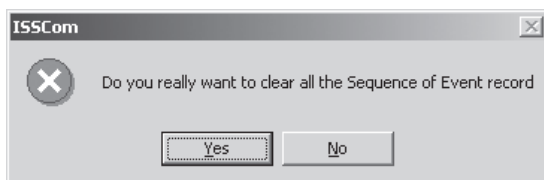

Figure 3-39 Clear Sequence of Events Record Command Confirmation Screen
- From the ISScom Main Screen menu select **System/Sequence of Events/Clear**. ISScom will display the Clear Sequence of Events Records confirmation screen (Figure 3-39).